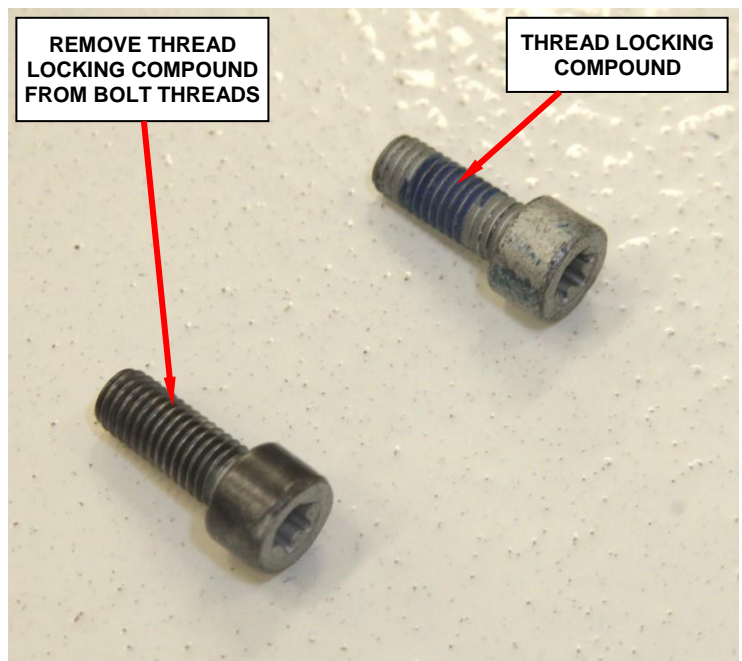

Figure 14 – M10 Installation Tool
17. Fabricate an installation bolt from an M10 – 1.5 x 25mm bolt (P/N 06508295AA) by removing the blue thread locking compound from the bolt threads (Figure 14).